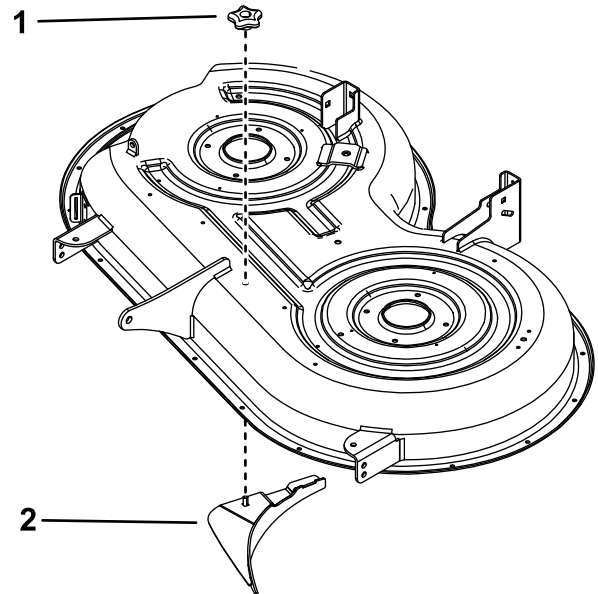

Figure 1
1. Install the baffle and knob (Figure 1).